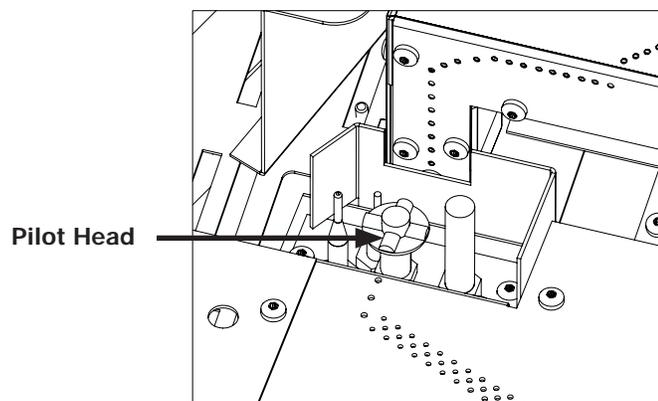

Figure 14: Pilot Orientation
5. Reassemble pilot head in proper orientation (see Figure 14). Be sure not to overtighten pilot, if head does not reach the proper orientation in the snug position then contact your Enviro dealer.